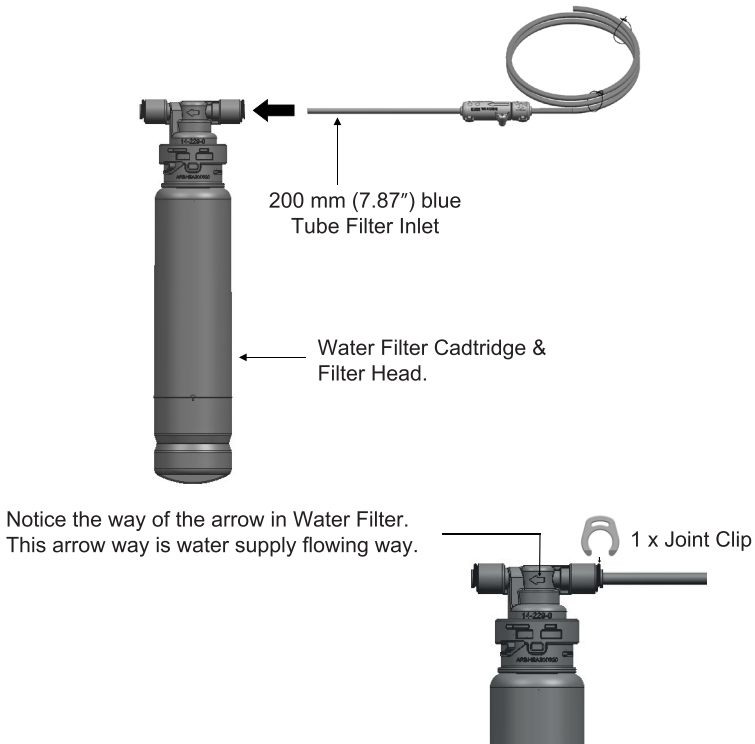

Figure 1: Connect 200 mm (7.87”) Tube Filter Inlet of Dual Check Valve Assembly Block with Water Filter Cartridge & Filter Head
Step 3: Connect 200 mm (7.87”) Tube Filter Inlet (blue tube ¼”) of ② Dual Check Valve Assembly Block with ③ Water Filter Cartridge & Filter Head as instructed in Figure 1.